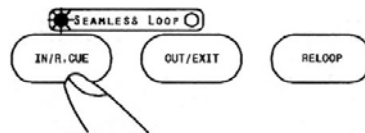

Fig. 9
- b. Press IN/R.CUE Button . This sets the starting point of the SEAMLESS LOOP. The IN/R.CUE Button LED will light (Fig. 9).